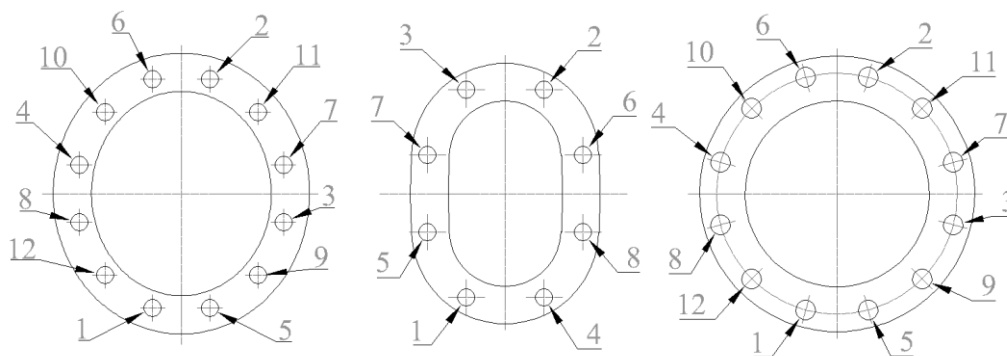

Fig. 5 Recommended re-tighten order
- For high temperature and high pressure applications after 24 hours of operation, all nuts shall be re-tighten diametrically opposite up to design stresses (Fig.5). This action compensate any relaxation or creep. Periodic inspection is recommended, thereafter.